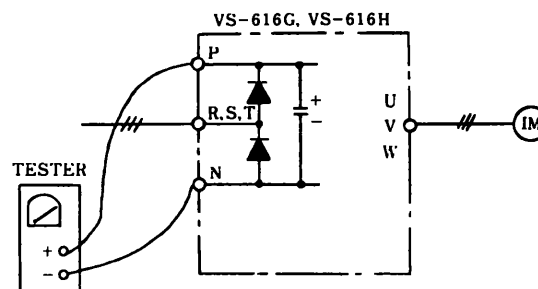

Fig. 10.3 Measurement of Residual Voltage
The residual voltage can be measured across terminals (P) and (N) (Fig. 10.3). Wait until the voltage across (P) and (N) drops below 15V.